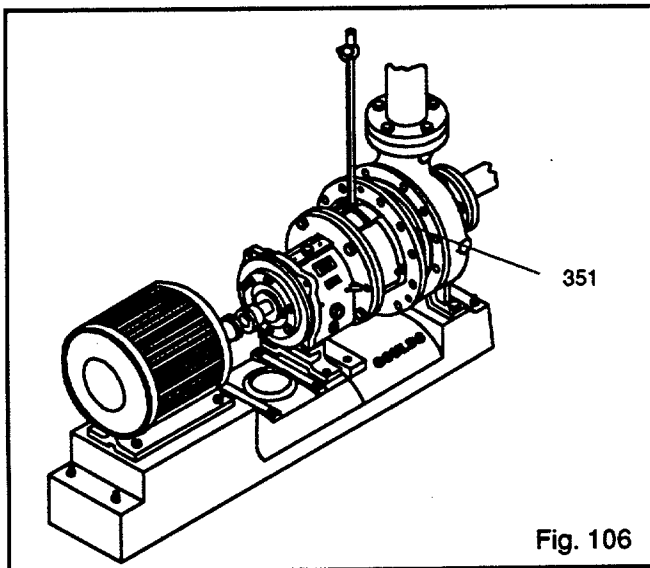

Fig. 106
3. Install back pull-out assembly in casing (Fig. 106).